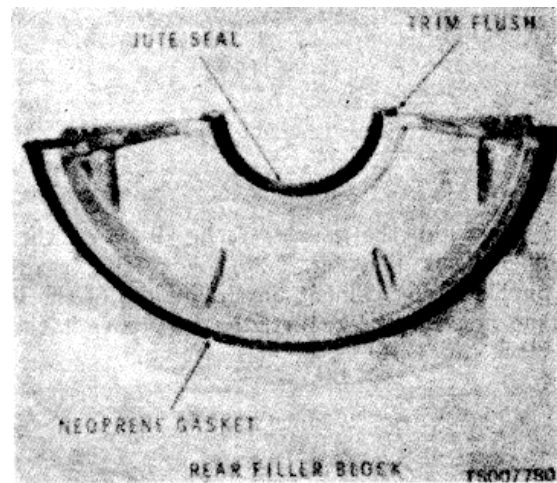

Figure 9-16. Lower Half of Ring Seal Installed in Rear Filler Block
- (3) Trim the seal flush with the filler block (fig. 9-16).